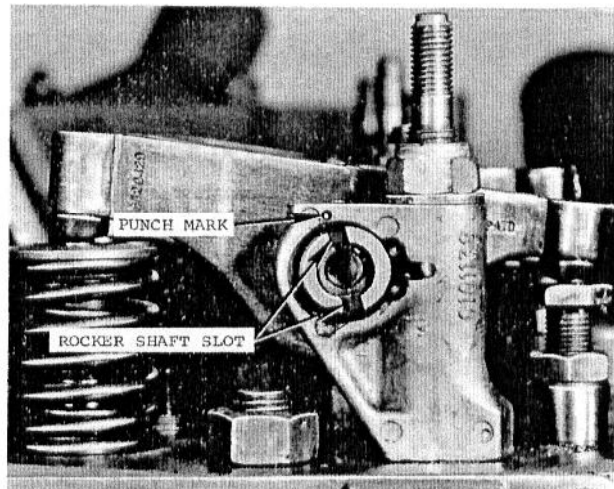

Fig. 2 — Rocker Arm Shaft Oil Slot Correctly Positioned
2. Observe Fig. 2, and align the slot in the rear end of the rocker shaft with the punch mark on the rear support bracket. (The amount of oil circulating to the rocker assembly can be adjusted by positioning this slot.)